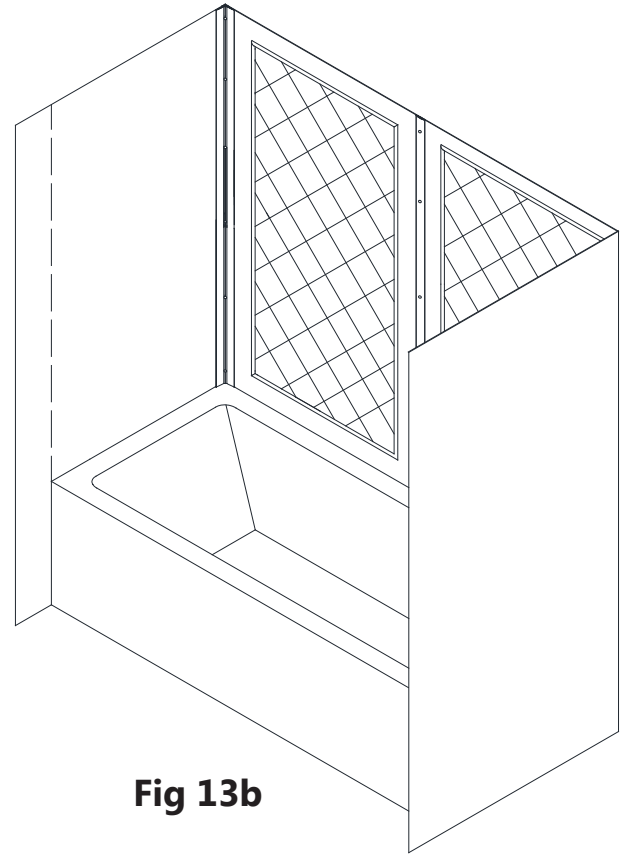

Fig 13b
13. Align both **Back Panels (#02)** at the top and tighten the screws on the **Center Cover (#05)** to secure this assembly in place. Do not tighten the screws on the corner covers yet. (**Fig 13a and Fig 13b**)